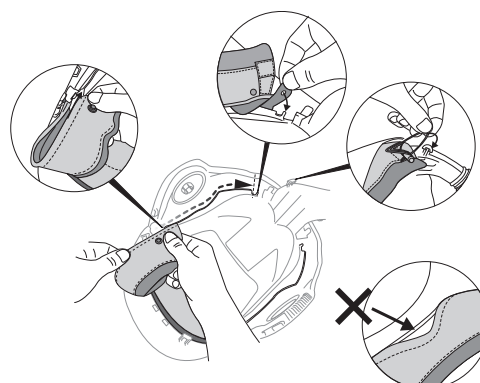

Fig. 20d
- d. Slide the side seam of the faceseal into the retaining channels. Hook the fabric over the retaining post and the retaining loops over the posts located on either side of the airduct tube holder. Make sure there are no gaps along the faceseal or the channels (Fig. 20d).